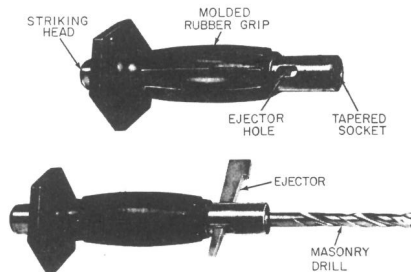

FIGURE 1. Drill Holder
- 2.01 The drill holder consists of a length of round tool steel with a tapered socket in one end to accommodate the drill shank and a beveled striking head on the other end. A soft rubber grip is molded around the holder to facilitate holding and turning during the hand drilling operations. An elongated hole located in the socket end is for inserting the ejector to remove the drill from the socket. See Figure 1.